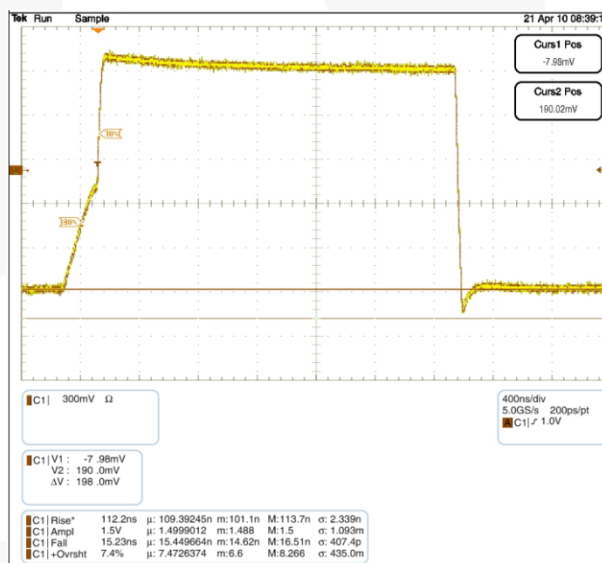

Figure 4. Waveform C: 600pF, Total R_{PU} : 2.2KΩ
C = the bus capacitance. If the FXMAR2104 is attached to the master [on the A port] and there is a slave on the B port, the Npassgates act as a low resistive short between the ports until either of the port's $V_{CC}/2$ thresholds are reached. After the RC time constant has reached the $V_{CC}/2$ threshold of either port, the port's edge detector triggers both dynamic drivers to drive their respective ports in the LOW-to-HIGH (LH) direction, accelerating the rising edge. The resulting rise time resembles the scope shot in Figure 4. Effectively, two distinct slew rates appear in rise time. The first slew rate (slower) is the RC time constant of the bus. The second slew rate (much faster) is the dynamic driver accelerating the edge.